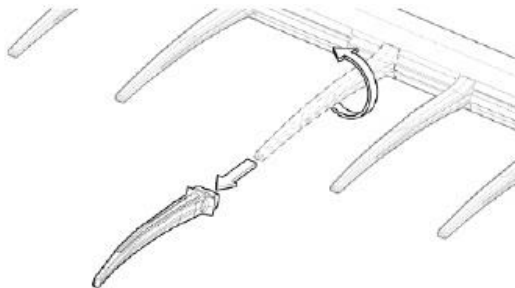

Figure 265
2. Once the spacer is removed the finger can be turned 90 degrees by a wrench and pulled out of the bat. Figure 265